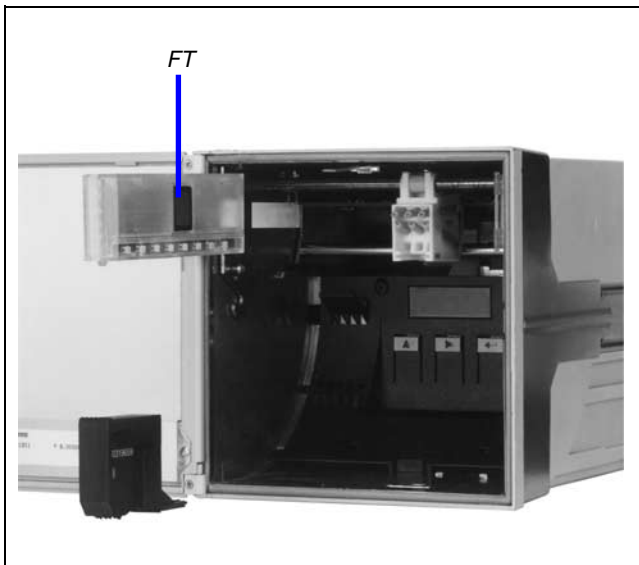

Fig. 8 Fitting ink unit (scale version)
6. Fit ink unit according to fig. 8.